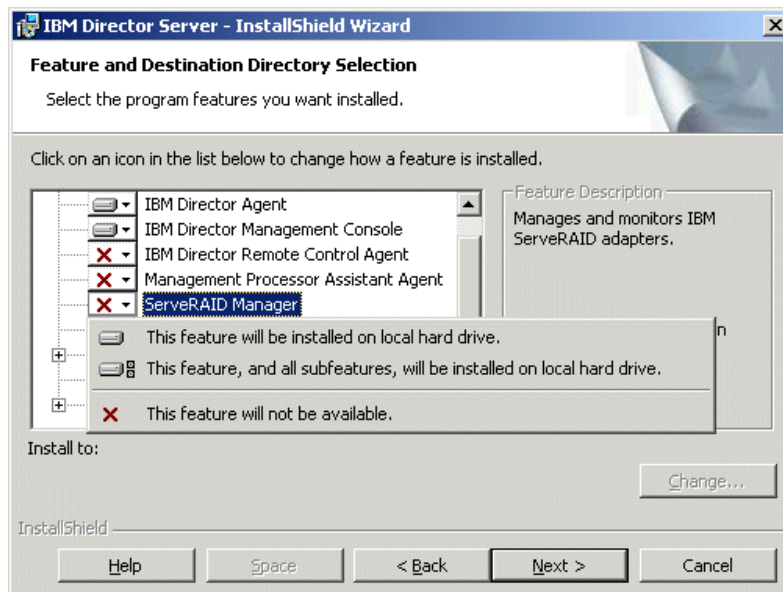

Figure 4-4 Feature and Destination Directory Selection window
5. Select **I accept the terms in the license agreement** and click **Next**. You will see a window similar to Figure 4-4.
6. From the Feature and Destination window, select the required features to be installed; features marked with a red cross will not be installed. To install any of the uninstalled features or extensions, click the icon to the left of the feature name and then click one of the install options that appears as shown in Figure 4-4. In our example, we accepted the default.